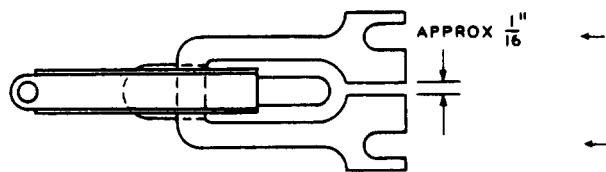

Fig. 7 - Armature
(3) When replacing a **welded armature**, remove the armature adjusting screw and the armature tension adjusting screw as outlined in (1). Loosen the armature mounting screws with the 3-inch cabinet screwdriver and attempt to remove the armature by rotating it upward away from the base using the upper armature mounting screw as a pivot. If the armature cannot be removed in this manner, it is equipped with mounting holes instead of open-end mounting slots and the armature mounting screws and associated parts must be removed and the new armature replaced as outlined in (2).
(4) If difficulty is experienced in meeting the readjust requirements, it is suggested that the armature be removed and modified by cutting, with a B splicers scissors, an approximately 1/16-inch wide section from the rear end of the spring as shown in Fig. 7, and the armature reassembled.